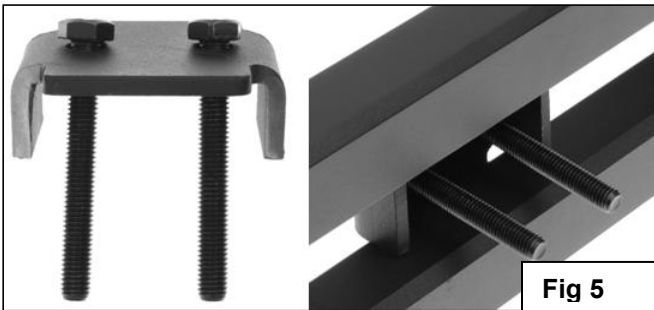

Fig 5
5. Select the Driver Side Bar. Slip (2) M10X1.5-75 Carriage Bolts into each 2-Hole Support Brackets ,and insert the 2-Hole support bracket into the Driver Side Bar.(**Fig 5**). Carefully position the Bar onto the (4) Mounting Brackets. **IMPORTANT:** Do not slide the Bar on the Brackets or damage to the finish may result. Attach the Driver Side Bar to the Mounting Brackets with (2) M10 Hex Nuts,(2)10mm lock washers and (2)10mm flat washers, (**Fig 6**). Do not tighten hardware.